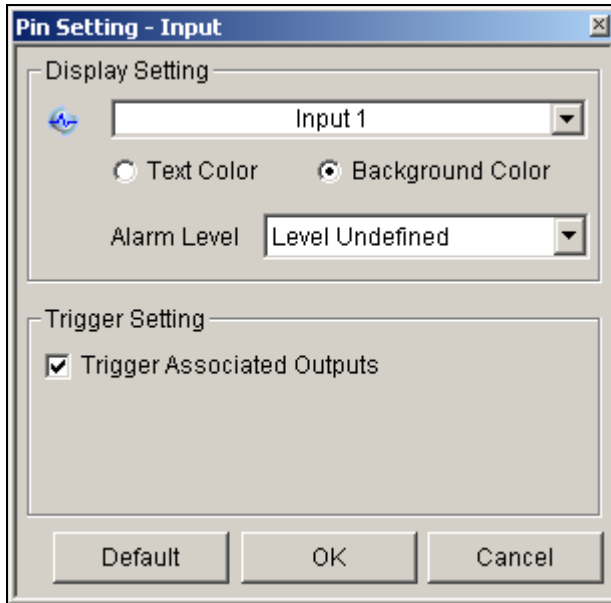

Figure 6-17
- **Use User-defined Text:** Allows you to modify the text of Alarm Level (Figure 6-17).